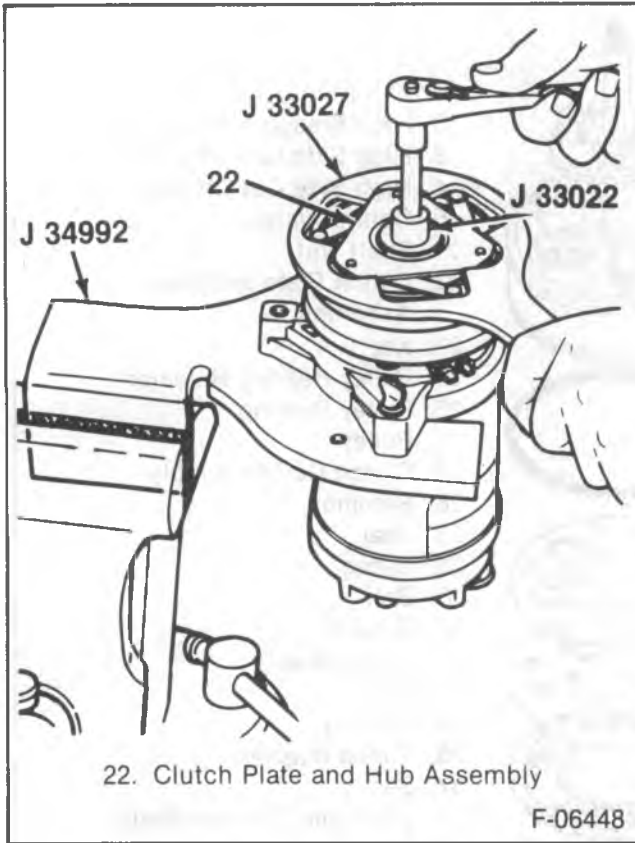
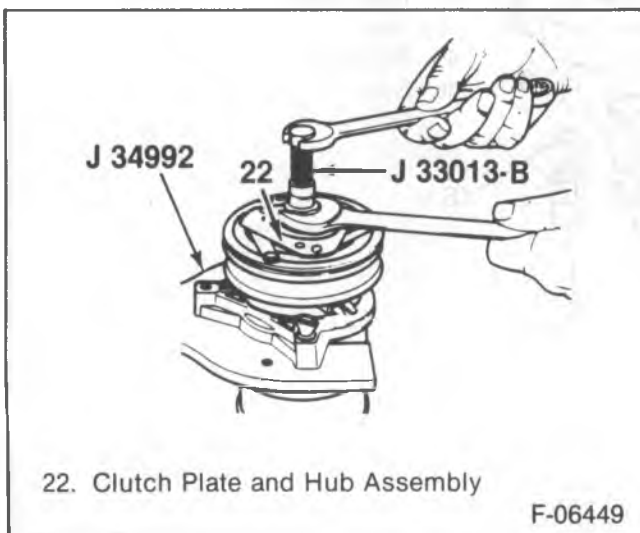

Figure 4—Removing the Shaft Nut
Figure 5—Removing the Clutch Plate and Hub Assembly
- Shaft nut (21) using J 33022 (figure 4).
- Hold the clutch plate and hub assembly (22) using J 33027.
- Clutch plate and hub assembly (22).
- Thread J 33013-B into the clutch plate and hub assembly (22).
- Hold the body of J 33013-B with a wrench and tighten the center screw into the remover body (figure 5).
- Shaft key (23).
- Retain shaft key (21) if useable.
Install or Connect (Figures 4, 12, 13, 14 and 15)